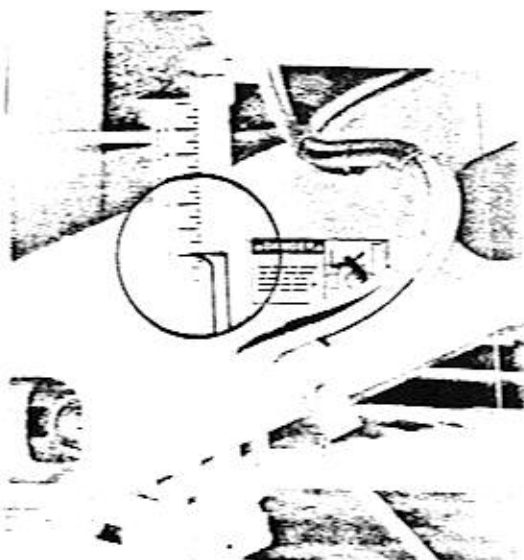

Figure 5-3
c. On left side of the machine (belt side), turn crank handle on depth indicator until pointer indicates "0" on the scale. See Figure 5-3. This will be the reference point.